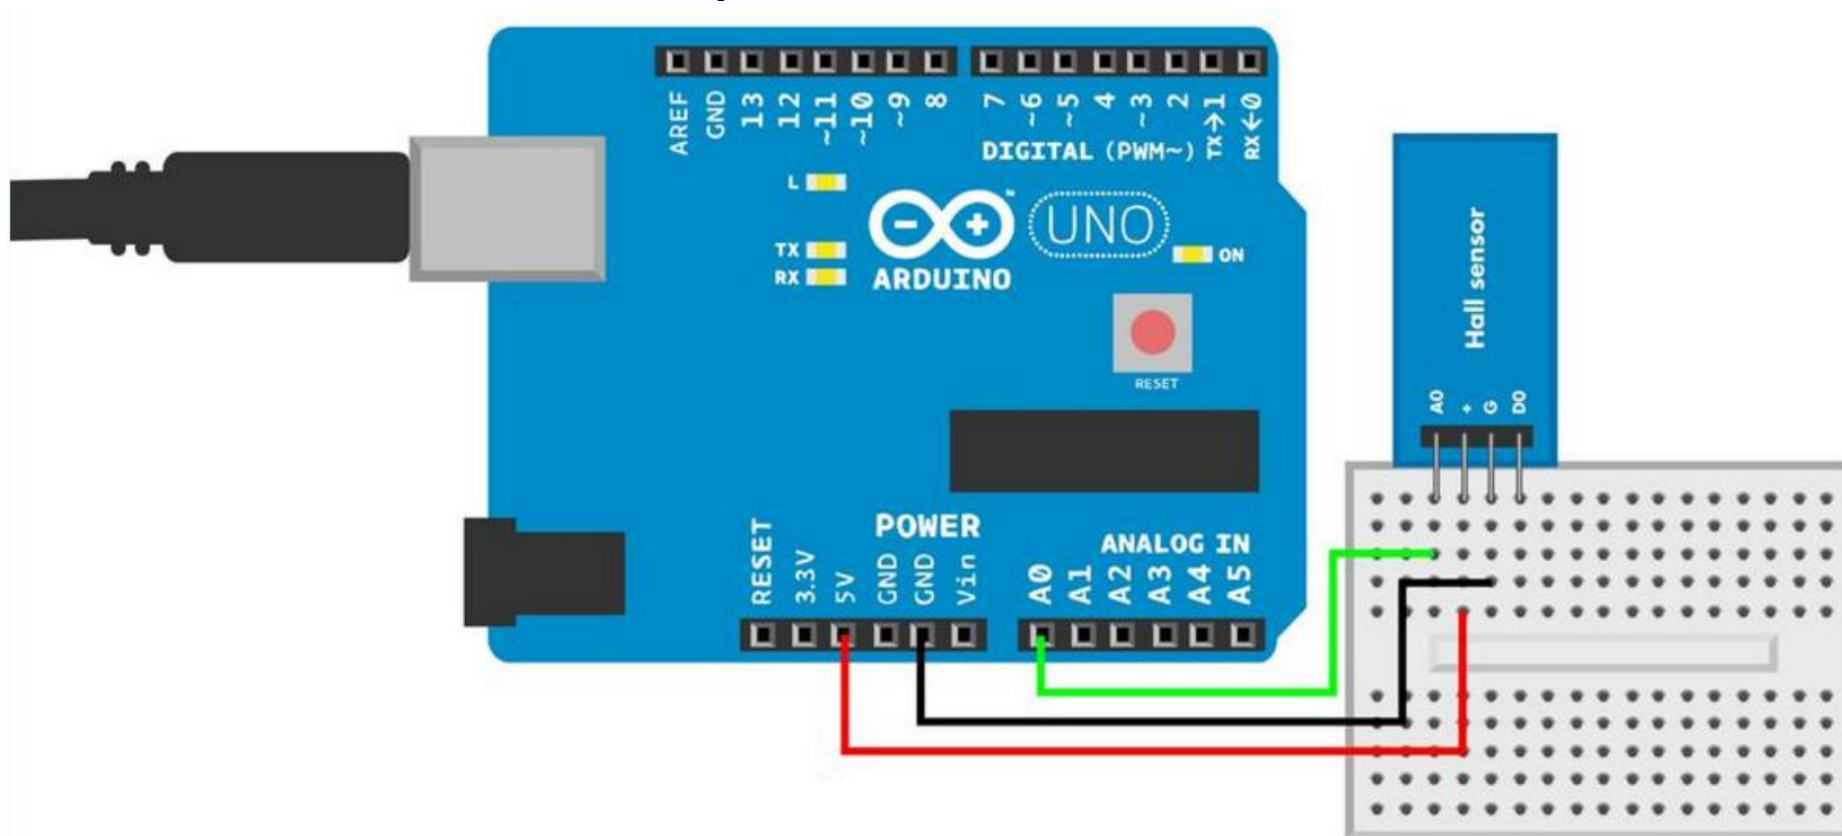

Figure 10-4. Arduino connections for the Hall effect sensor
- Figure 10-4 shows the connections for Arduino. Wire it up as shown, and then run the sketch shown in Example 10-3.